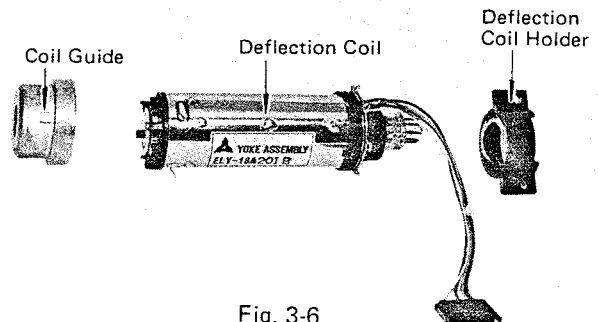

Fig. 3-6
- Pull off the vidicon socket, and remove the deflection coil holder and coil guide from the deflection coil. (Fig. 3-6)